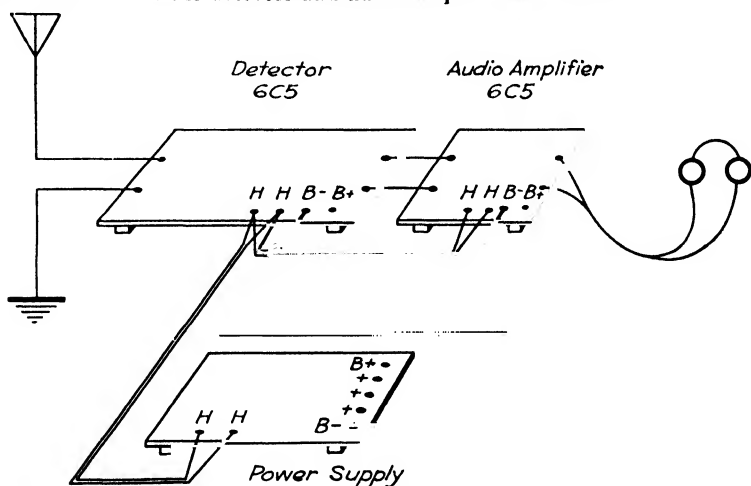

FIG. 307. Now connect the B-minus from the power supply to one board, then connect a B-minus wire between the two boards.
Step 2. Attach the B-minus wire from the power-supply board to both sets (see Fig. 307).